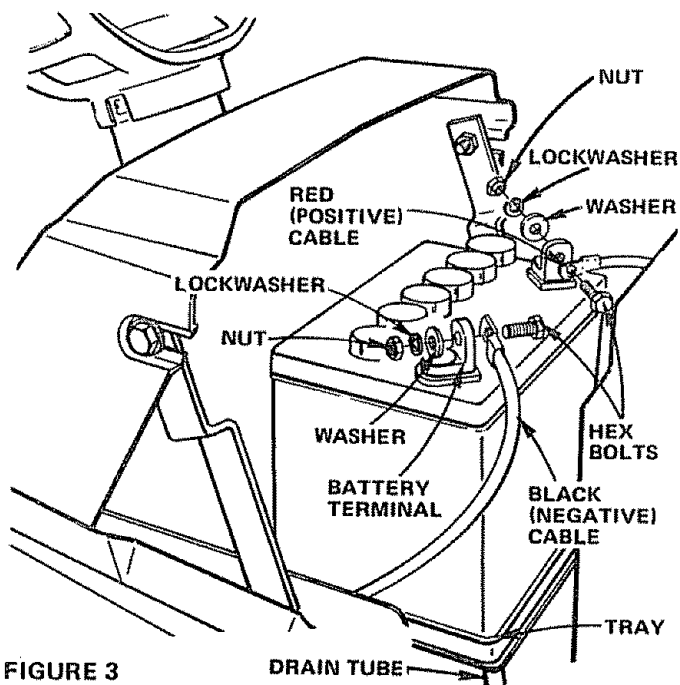

FIGURE 3
- b. Remove tape from Plastic Tray. Make sure Drain Tube (Fig. 3) is fastened to Drain Hole in Battery Tray and Battery Tray is positioned in hole of Battery Support.
- c. Place Battery in Plastic Tray (Battery Terminals to front of Tractor) (Fig. 3).
- a. Connect RED Battery Cable to Positive (+) Battery Terminal with Hex Bolt, Flat Washer, Lockwasher and Hex Nut (Fig. 3). Tighten securely.
- b. Connect BLACK Ground Cable to Negative (-) Battery Terminal with remaining Hex Bolt, Flat Washer, Lockwasher and Hex Nut (Fig. 3). Tighten securely.